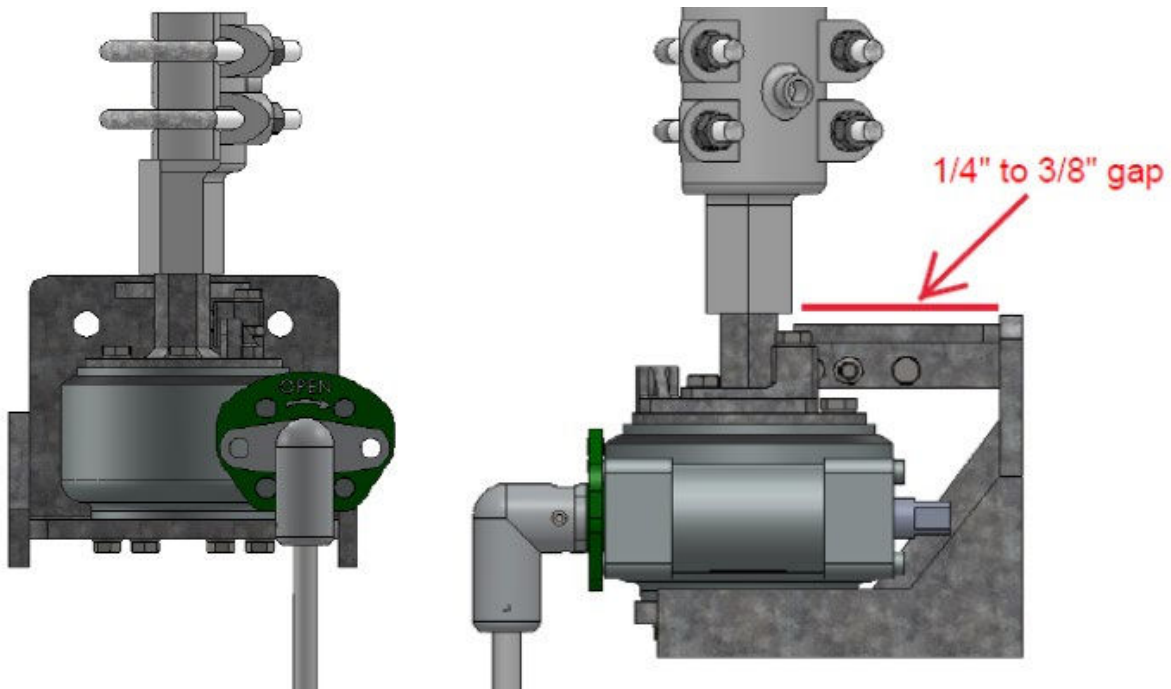

**Figure 21: Type HOGO (High Output Geared Operator) Front View**
- 5.7. **CAUTION:** The pipe collar (above the vertical bearing support) must support the entire weight of the vertical operating pipe. **Do not allow the pipe to rest on the switch operating device.** Refer to **Figure 21** & **Figure 22**.
6.2.1.2. When the switch is properly adjusted the operator handle should hang vertically and free in both the open and closed positions to permit the use of a customer supplied padlock. Refer to **Figure 21**